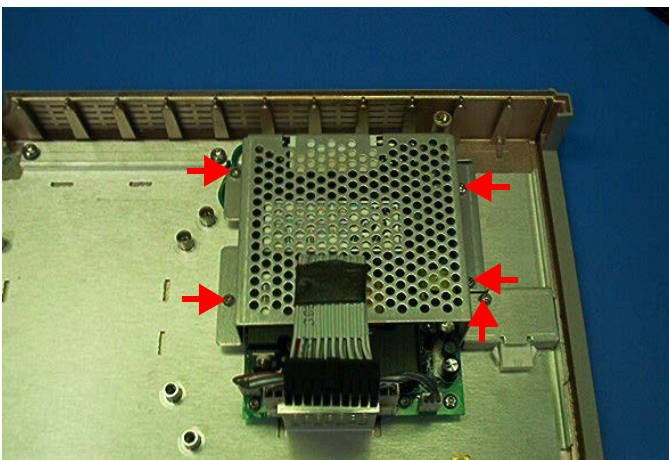

Figure 5-4
- Remove the PSU safety cover (Figure 5-4): Use the T10 Torx screwdriver bit to remove the 4 screws attaching the PSU safety cover to the top clamshell. Lift and remove the safety cover.
- Remove the PSU cable guide (Figure 5-4): Use the T10 Torx screwdriver bit to remove the screw attaching the cable guide to the top clamshell. Lift and remove cable guide.